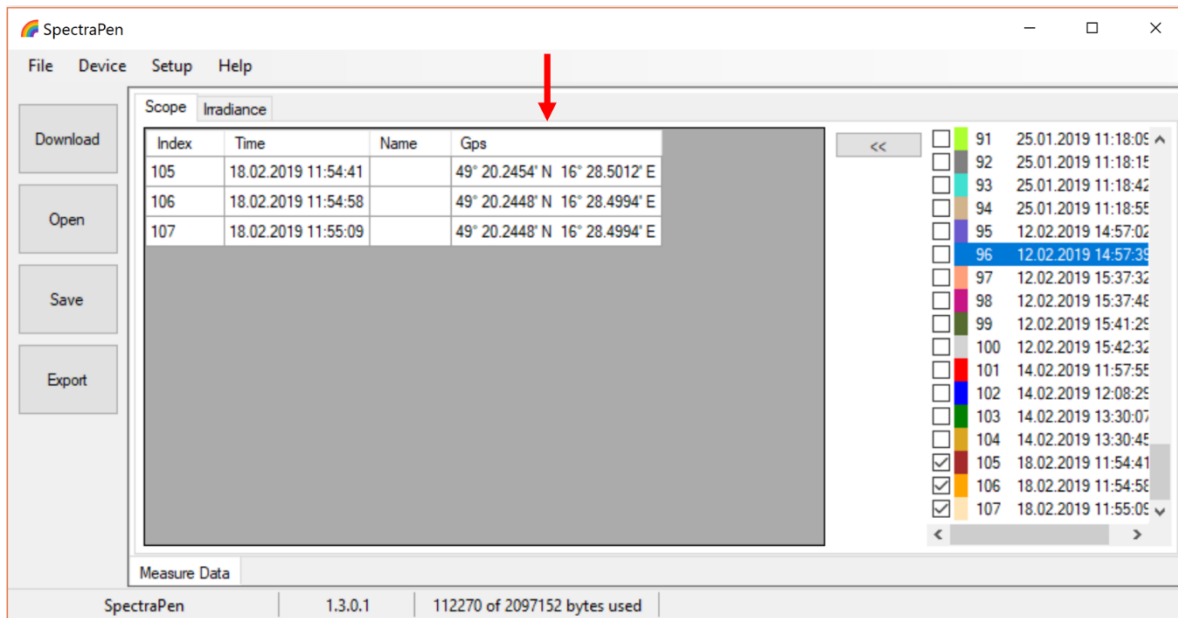

Fig. 43 Data with GPS coordinates.
4. Connect the SpectraPen to the computer and open the SpectraPen software to proceed with download of the measured data. Data measured with activated GPS module are downloaded with GPS coordinates (Fig. 43).